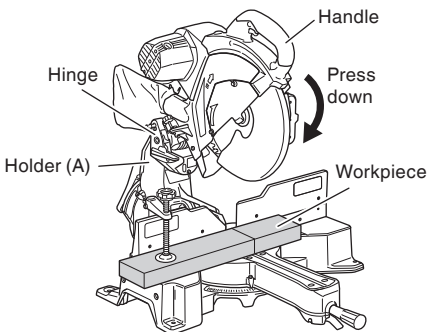

Fig. 25
Slide the hinge down to holder (A), then tighten the slide securing knob (see Fig. 2) as indicated in Fig. 25. Lower the handle to cut the workpiece. Using the power tool this way will permit cutting of workpieces of up to 4-3/16" (107 mm) square.